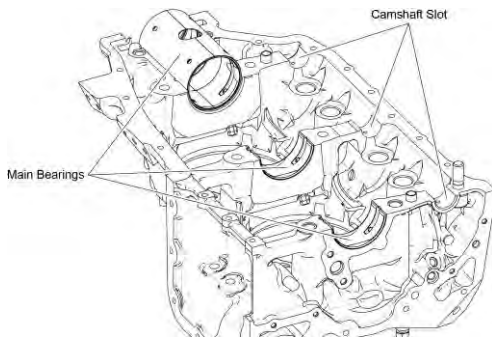
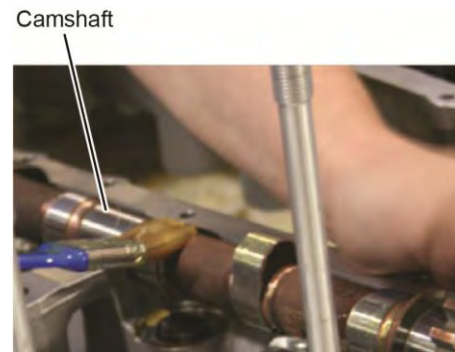

Figure 72
Figure 75
- (4) Apply engine oil mixture (15% pre-lubricant (STP or equivalent) and 85% SAE No. 50 mineral base aviation grade lubricating oil) to the camshaft slots and main bearings on each crankcase half (Figures 72 and 73) and the camshaft lobes (Figure 75).